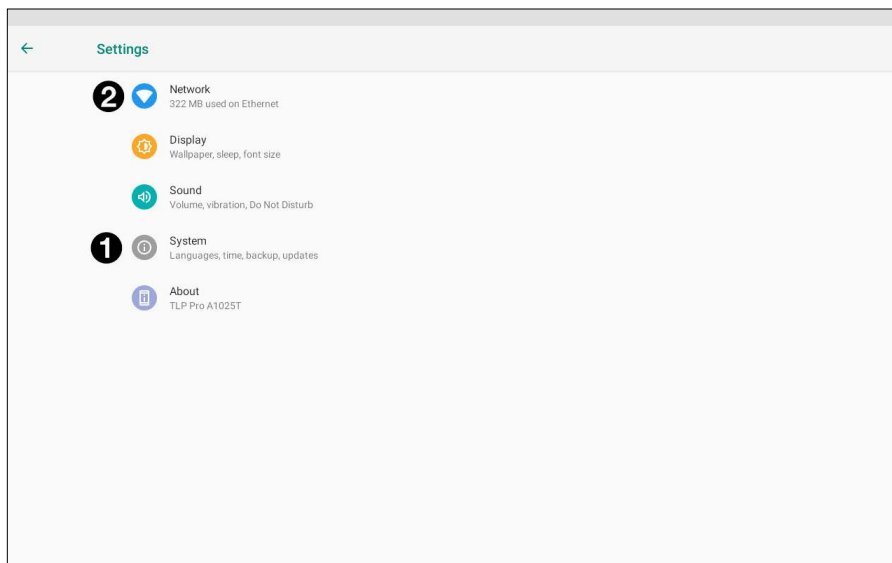

Figure 7. Settings Menu
4. Click **System** (see figure 7, ❶).
7. Return to the Settings page and click **Network** (see figure 7, ②, on the previous page).